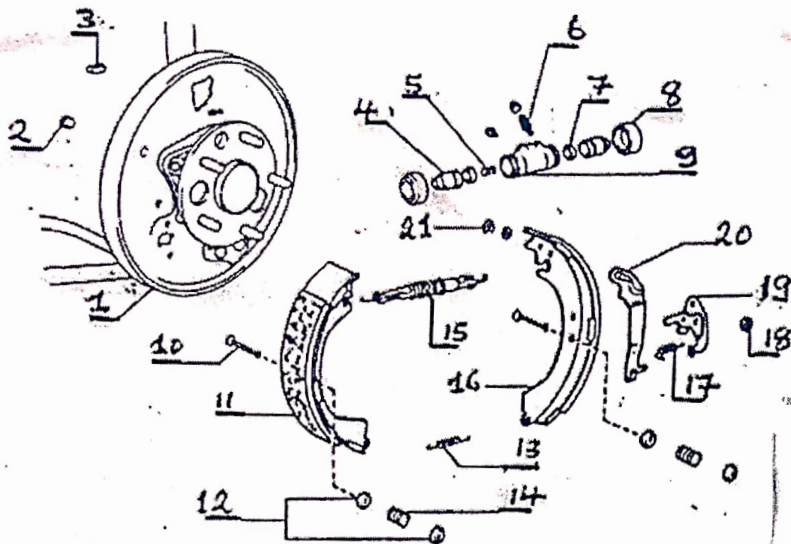

Figure 3 Explosion of Disc Brakes
Figure 3 below shows the exploded views of the components of the braking system.
- b) By referring to figure 3 above, give the names of the following parts of the rear brake drum assembly : (4 marks)